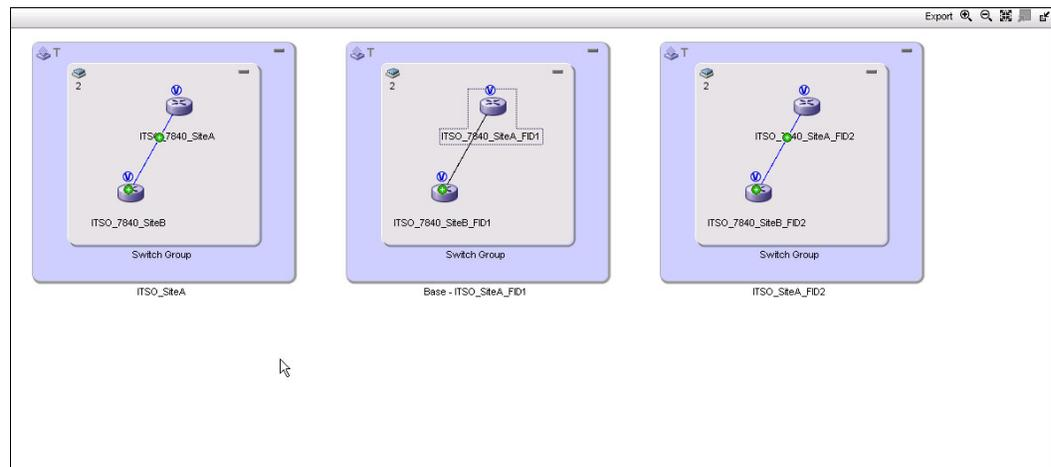

Figure 6-21 Status of the XISL connection
21. After FCIP creation, the status of the XISL connection between logical switches is shown in Figure 6-21.